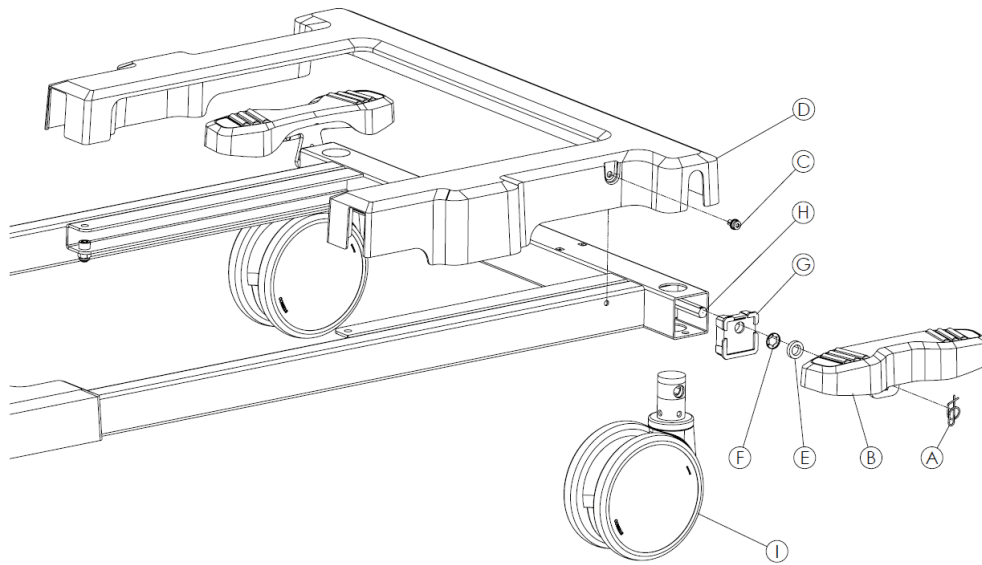

Figure 15 – Steer caster
4. Using a T25 Torx wrench, remove the cover screws (C). Remove the cover (D). Discard the cover screws (Figure 15).
5. Using needle nose pliers, remove the rue ring cotter pin (A) from the hex shaft. Discard the rue ring cotter pin.
6. Pull the brake pedal (B) off the hex shaft. Set aside.
7. Remove the plastic washer (E) that is on the hex shaft. Discard the plastic washer.
8. Using diagonal pliers, cut the starlock retainer (F) that is on the hex shaft. Discard the starlock retainer.